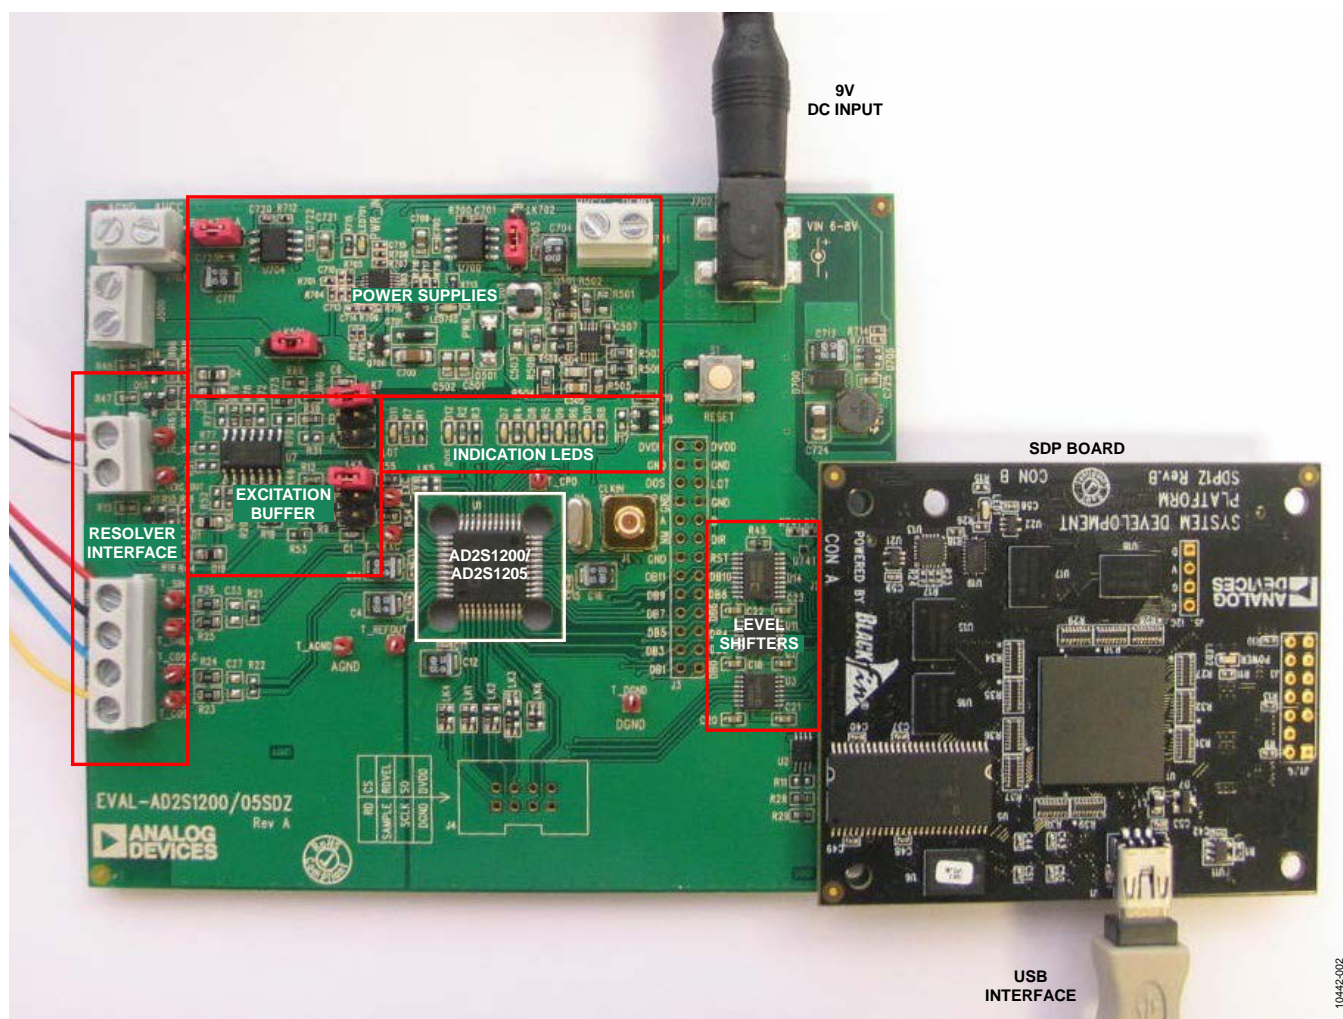

Figure 2. Hardware Configuration—Setting Up the EVAL-AD2S1200/05SDZ
3. Connect the EVAL-SDP-CB1Z board to the EVAL-AD2S1200/05SDZ board as shown in Figure 2.
The EVAL-AD2S1200/05SDZ board connects to the EVAL-SDP-CB1Z system demonstration platform board. The EVAL-SDP-CB1Z board is the controller board, which is the communication link between the PC and the main evaluation board. Figure 2 shows a photograph of the connections made between the EVAL-AD2S1200/05SDZ daughter board and the EVAL-SDP-CB1Z board.